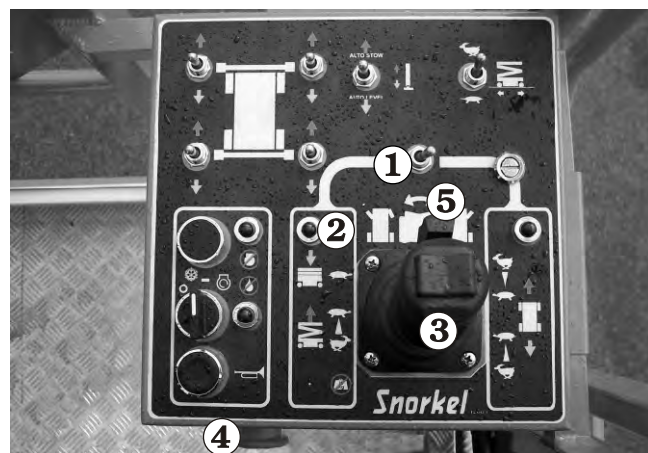

Figure 8.19
2. Set the **Lift/Drive Selector** ① (see Figure 8.19) to lift (left).
3. Squeeze and hold the **Safety Control** ⑤ against the Joystick Controller ③ (see Figure 8.19).
4. Pull the **Joystick Controller** ③ backward to raise the platform, or push it forward to lower it. The further you pull the **Joystick Controller** ③ backward, the faster the platform rises. There is only one (1) down speed.